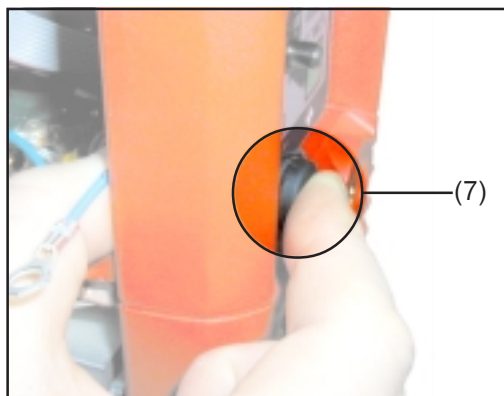

Fig. 14
- TP 1500 RC / 1500 TIG: Apply gentle pressure to the seal of the remote-control socket (7), to prevent it being forced out when you press on the FPA15 board (Fig. 14)